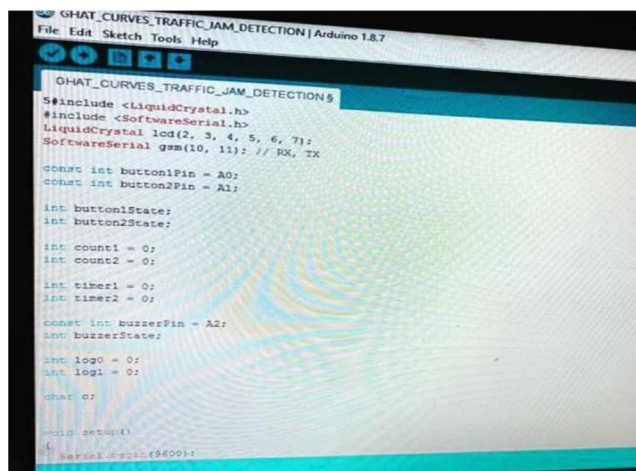

Fig 4. Coding for microcontroller arduino
- 1) *STEP 1:* The fig 4 shows the coding for microcontroller which consists of set of commands to process the data from sensor and to operate the LED.